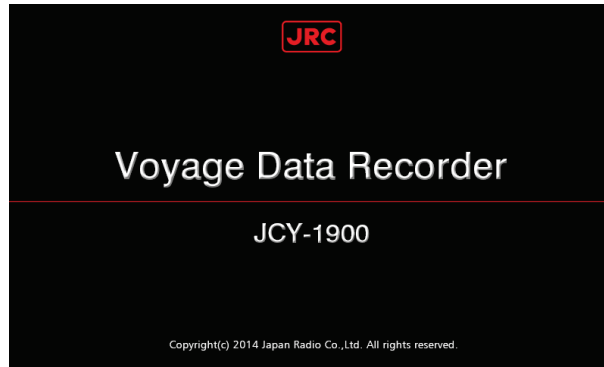

Figure 3-2 Startup screen
4) The OPU starts up and displays the startup screen to show in Figure 3-2.